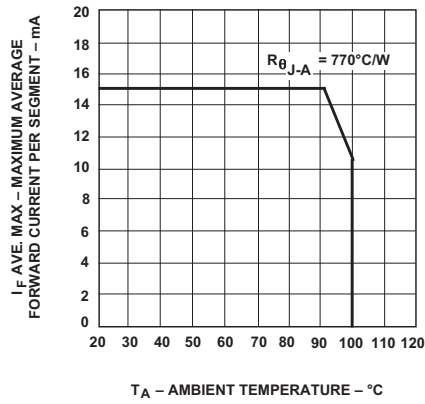

Figure 1. Maximum allowable average or dc current vs. ambient temperature.
5. Derate above 91°C at 0.53 mA/°C (see Figure 1).